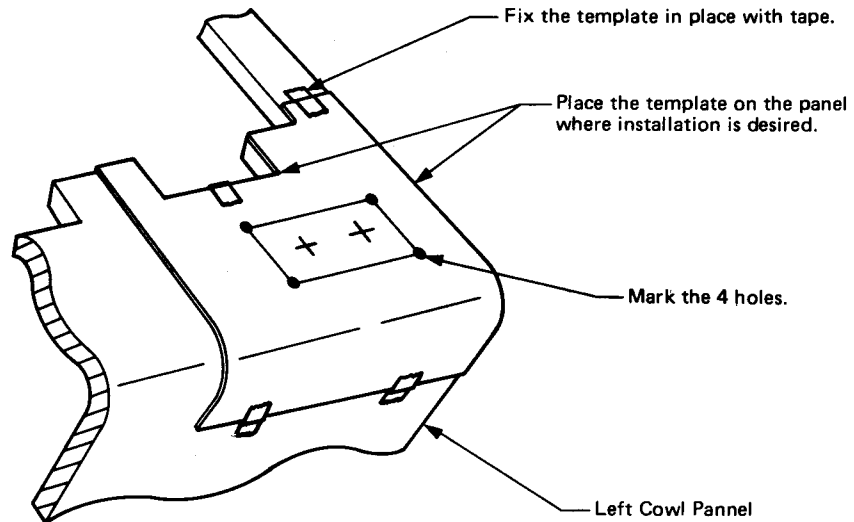

Fig. 1
1. (1) Line up the template with the shape of the interior of the left cowl panel and pocket holes and attach using tape. (Refer to Fig. 1)
- (2) Mark the holes with a punch and make the holes at correct angles.
- (3) Be sure not to come in contact with the parts inside the left cowl panel and the gutter during this operation.